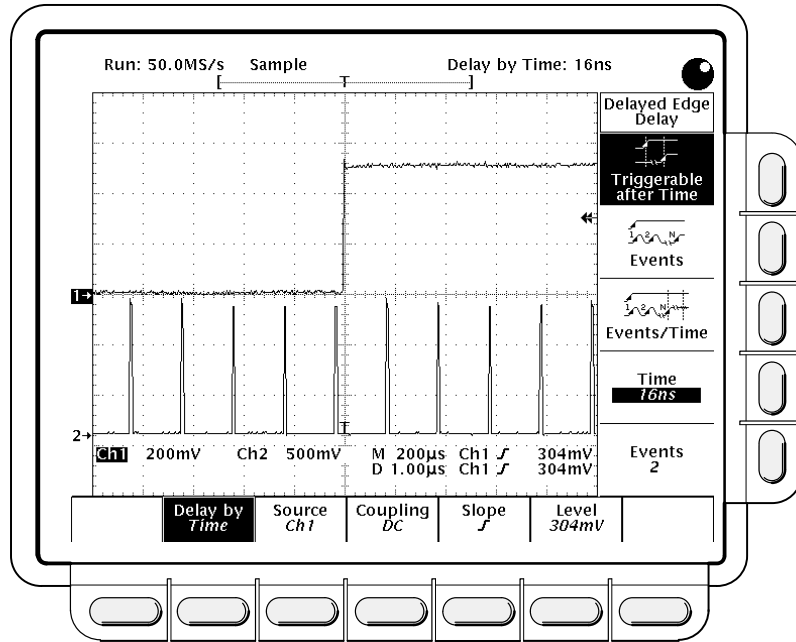

Figure 3-15: Delayed Trigger Menu
5. Press **SHIFT DELAYED TRIG** → **Delay by** (main) → **Triggerable After Time, Events, or Events/Time** (side) (Figure 3-15).